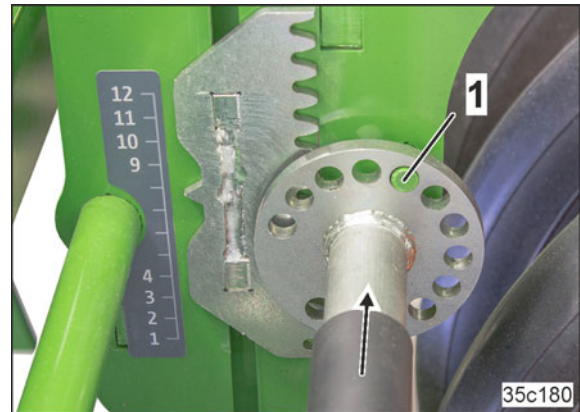

Fig. 127
4. After the adjustment procedure, the locking teeth must latch in completely (Fig. 127/1).